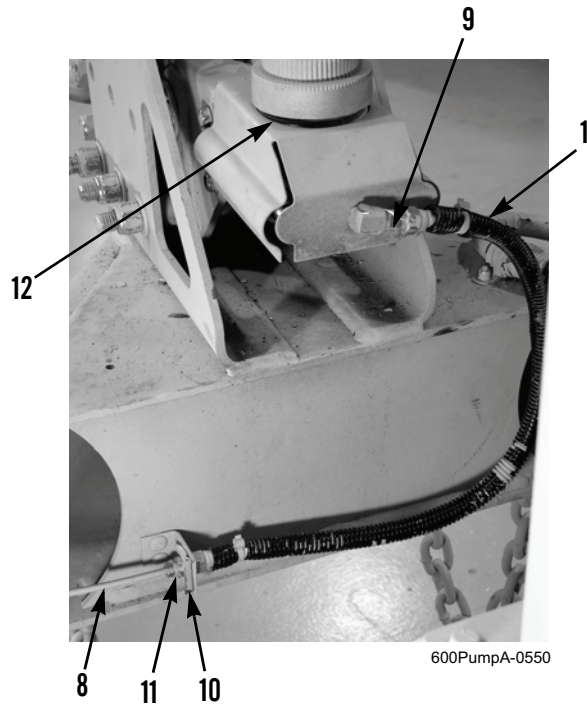

Figure 2. Front Flex Brake Line.
1. Place a suitable container under front flex brake line (Figure 2, Item 1) and master cylinder (Figure 2, Item 12).
2. Loosen nut (Figure 2, Item 11), remove frame bracket clip (Figure 2, Item 10), and disconnect front flex brake line (Figure 2, Item 1) from front solid brake line (Figure 2, Item 8).
3. Disconnect front flex brake line (Figure 2, Item 1) from straight adapter (Figure 2, Item 9).
1. Connect front flex brake line (Figure 2, Item 1) to straight adapter (Figure 2, Item 9) at master cylinder (Figure 2, Item 12).
2. Connect front flex brake line (Figure 2, Item 1) to front solid brake line (Figure 2, Item 8) and tighten nut (Figure 2, Item 11). Install frame bracket clip (Figure 2, Item 10).